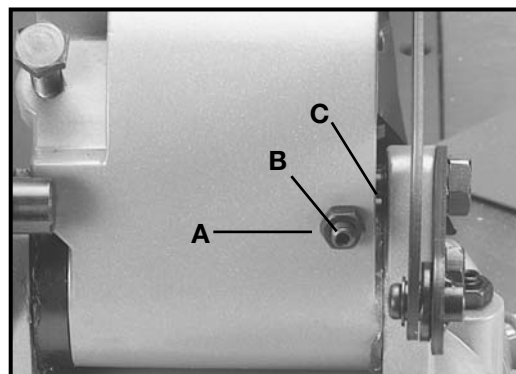

Fig. 29
2. The downward travel of the saw blade can be limited to prevent the saw blade from contacting any metal surfaces of the machine. This adjustment is made by loosening locknut (A) Fig. 29, and turning adjusting screw (B) in or out until other end of screw (B) contacts stop (C) at the full downward travel of the saw blade.
3. When making this adjustment, **MAKE SURE THE MACHINE IS DISCONNECTED FROM THE POWER SOURCE** and lower the blade as far as possible. Rotate the blade by hand to make certain the teeth do not contact any metal surfaces and adjust if necessary. After adjustment is completed, tighten locknut (A) Fig. 29.